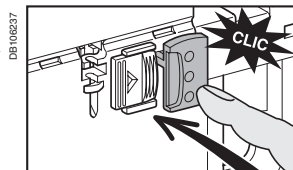

Fig. 1
- mounting without locking (disassembly possible) (fig. 1)